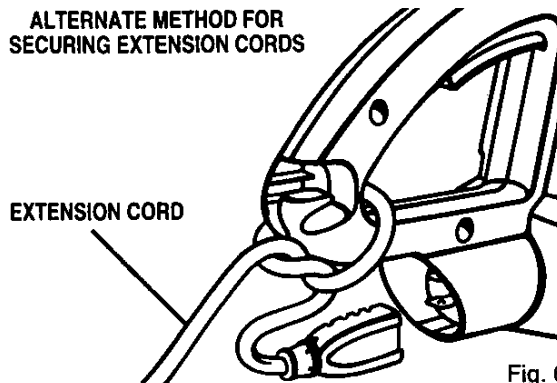

Fig. 6
- (2) Make a knot as shown in Figure 6.
Extension cord retainer works best with 16 A.W.G. extension cords. When using 18 A.W.G. extension cords the cord may be loose in extension cord retainer. When using 14 A.W.G. extension cords the cord may be tight in extension cord retainer. We suggest an alternate method as shown in figure 6 for securing loose or tight extension cords.